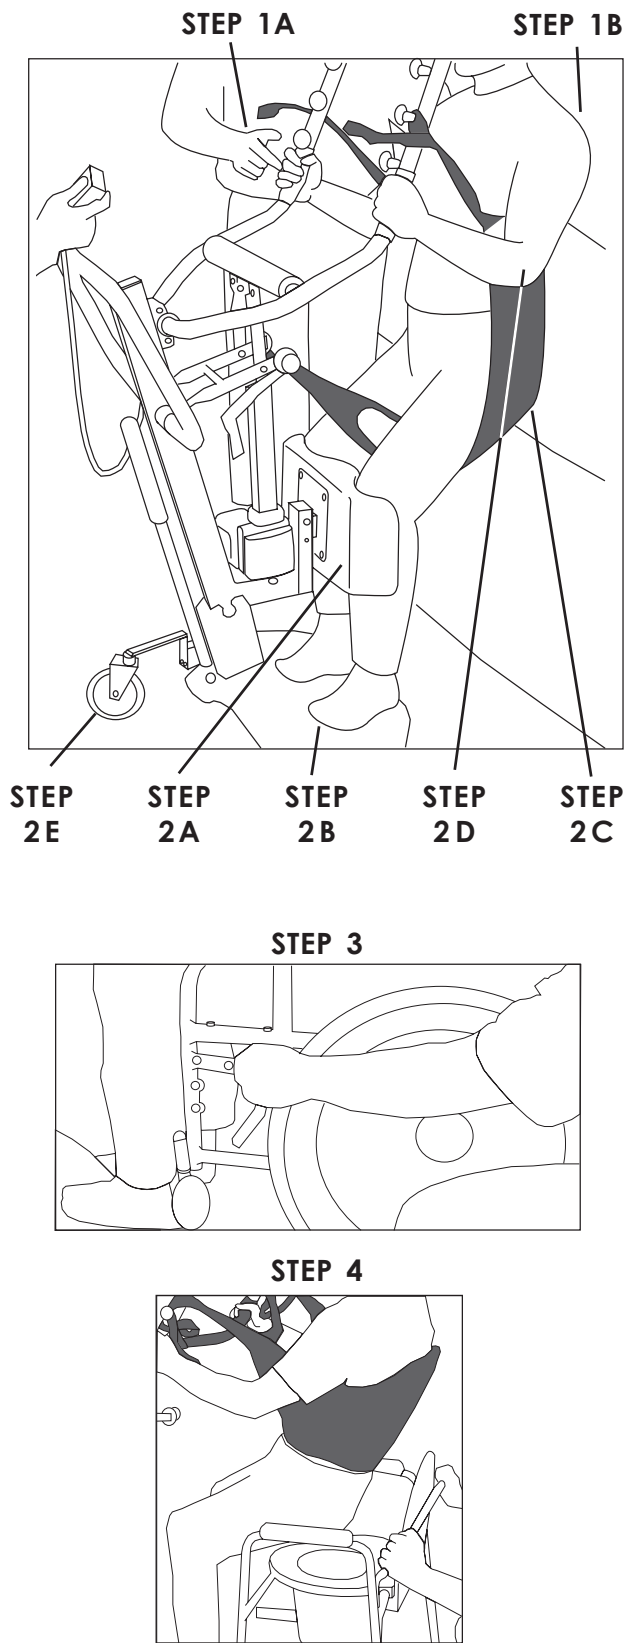

FIGURE 1 - LIFTING THE PATIENT
- B. Patient's feet are positioned on the footplate as shown in **STEP 2B** of **FIGURE 1**.